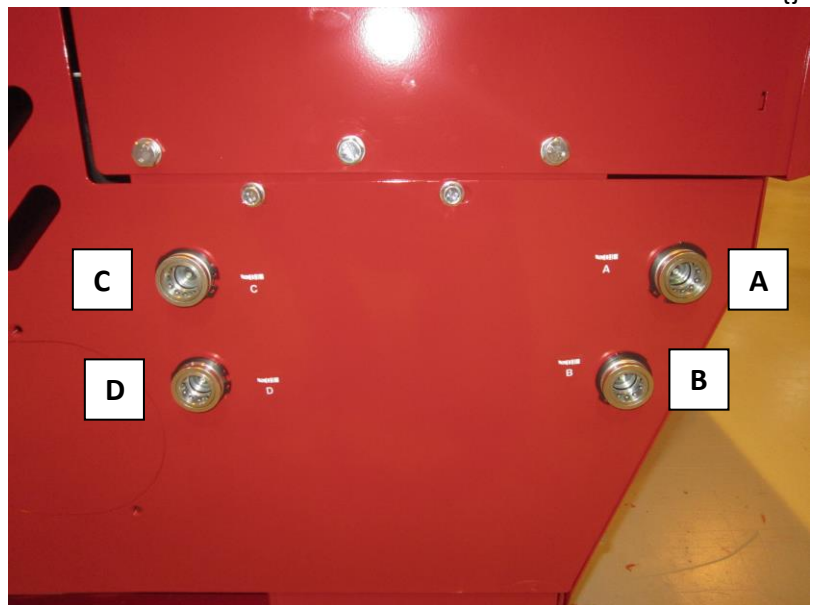
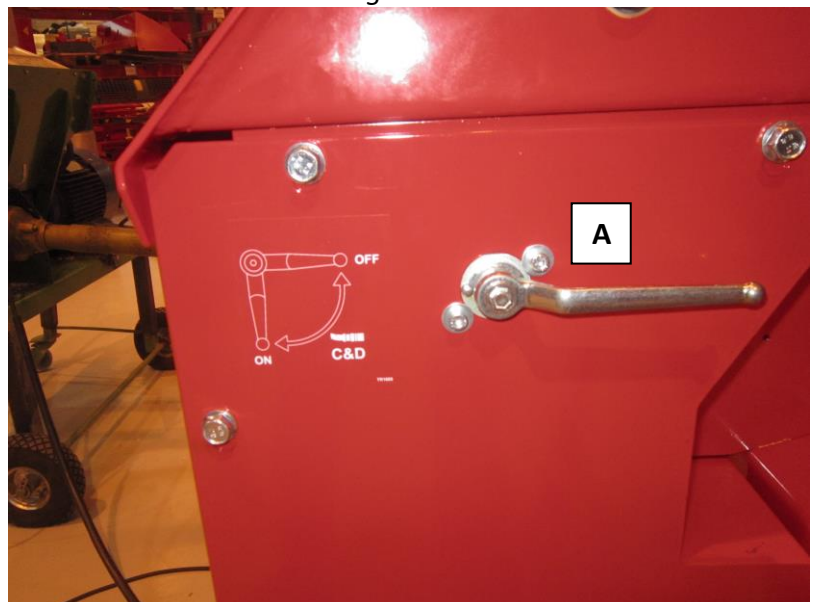

Figure 20.
Figure 21.
Connect the additional hydraulics (for example Connect the additional hydraulics (for example when using the WoodLift 381 log hoist) by pushing the hydraulic hoses of the auxiliary device to quick couplings C and D (please see Figure 20 in Section 4.3.4).
1. Connect the hoses of the auxiliary rollers to quick couplings C and D in the Figure 20.
3. Turn ON the cock A in Figure 21 with the handle B, which allows oil to flow to the quick couplings shown in Figure 20.
Note! Cock A must be closed (as in Figure 21) whenever the quick couplings C and D in Figure 20 are not in use!